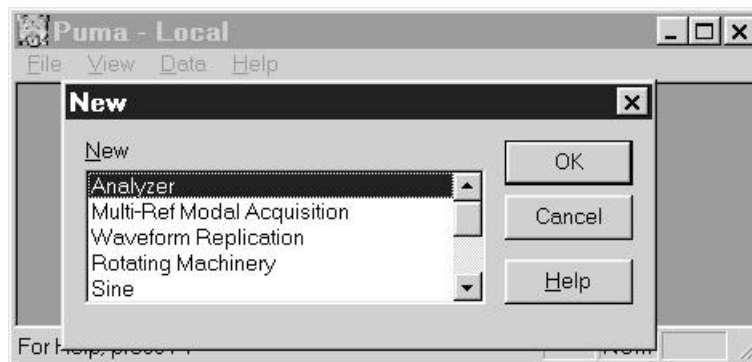

Figure 3-7. NEW Dialog Box
1. Click **FILE** ⇒ **NEW** The **New** Dialog Box appears. See Figure 3-7.